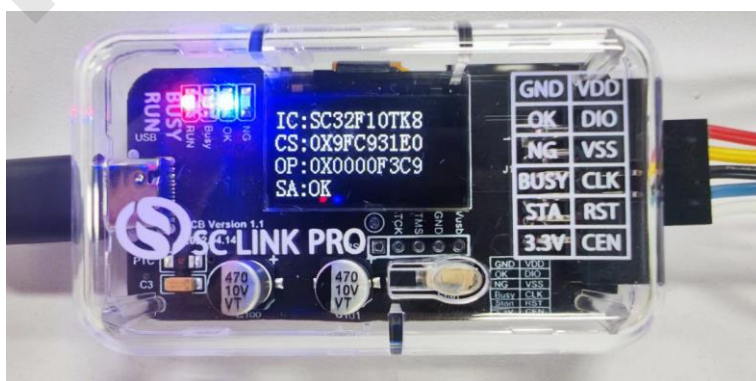

Fig. 2.2.2 SC LINK PRO Display under Conventional Offline Programming
In offline programming mode of SC LINK PRO, OLED will display the downloaded project file that has been preloaded, including IC name, CRC Checksum (CS), Programming Option (OP) and Programming Status (SA). Figure 2.2.2 shows the display with programming succeeded, in which OK is displayed and blue light is on.